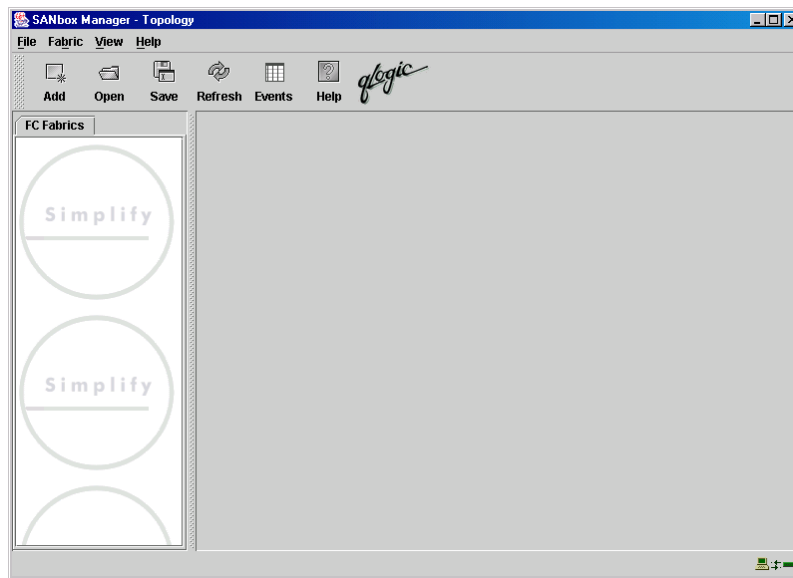

Figure 2-2. SANbox Manager Window
- Choose **Start Application Without Specifying a Fabric** to open the SANbox Manager window shown in Figure 2-2.